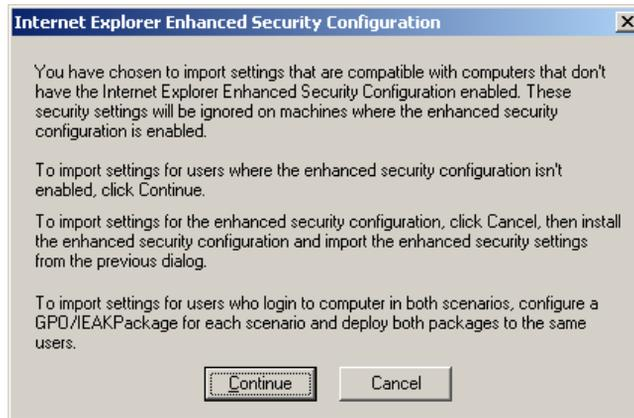

Figure 8. Internet Explorer Enhanced Security Configuration Dialog
selection will open the Internet Explorer Enhanced Security Configuration dialog shown in Figure 8.
5. Select **Import the current security zones and privacy settings** in the Security Zones and Privacy frame. Since Internet Explorer Enhanced Security was disabled under Disable Internet Explorer Enhanced Security Configuration for Windows Server 2003 Using Internet Explorer 7.0 on page 63, making this selection will open the Internet Explorer Enhanced Security Configuration dialog shown in Figure 8.